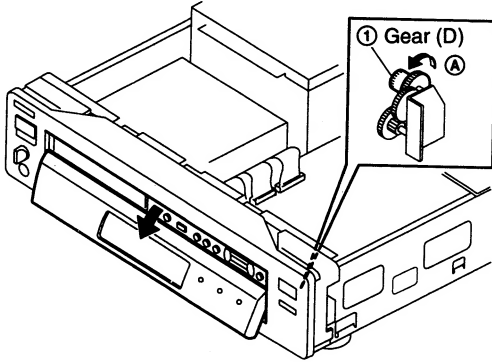

Fig. 1
- 1) With the top case removed, rotate the gear (D) ① in direction ① to open the door. (See Fig. 1)